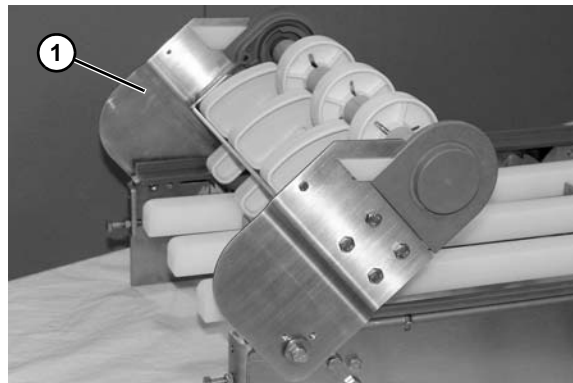

Figure 39
5. Rotate idler end (**Figure 39, item 1**) upward as shown.